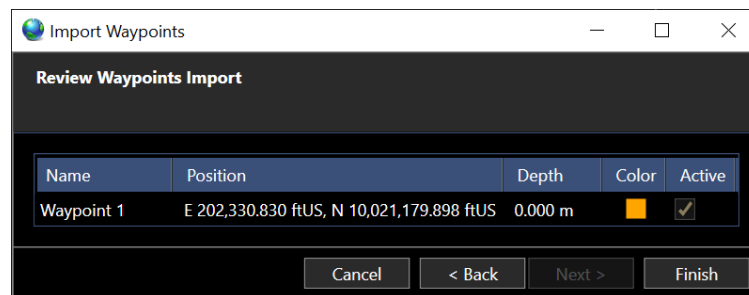

FIGURE 11-10 WAYPOINT IMPORT REVIEW
5. Click **Next** to review (see Figure 11-10) the import as configured, if acceptable click **Finish** to import the waypoints and append them to the existing waypoints in NavView, if changes are required click Back to edit the field settings